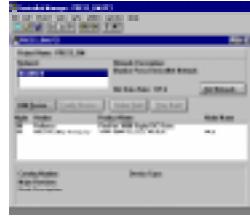

Figure 6.6
3. The list is in alphabetical order by Vendor. Page down to the “R’s” and the “Reliance FlexPak 3000 Variable Frequency Drive” item is available for selection. To add a FlexPak 3000 as Node 1, select the FlexPak 3000 item, change the Node Address to 1, and press “OK”. Press “Cancel” when finished. The FlexPak 3000 will now be added to the list of devices on the BLANKER network, as shown in Figure 6.6.